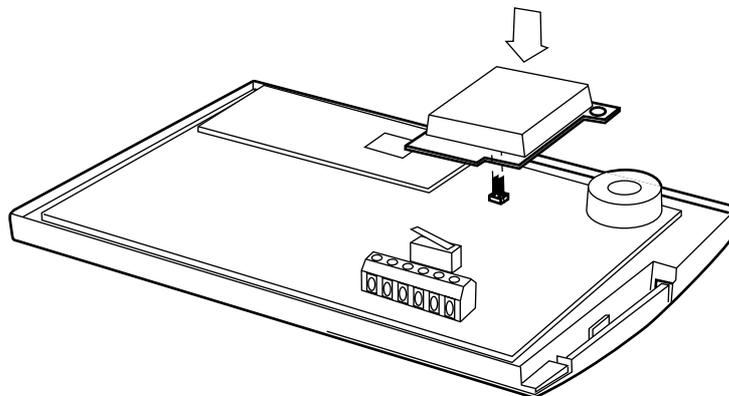

Figure 11. Fitting a 934 Module (over the keypad)
2. Fit the 934 module to the connector pins, as shown in Figures 11 and 12.